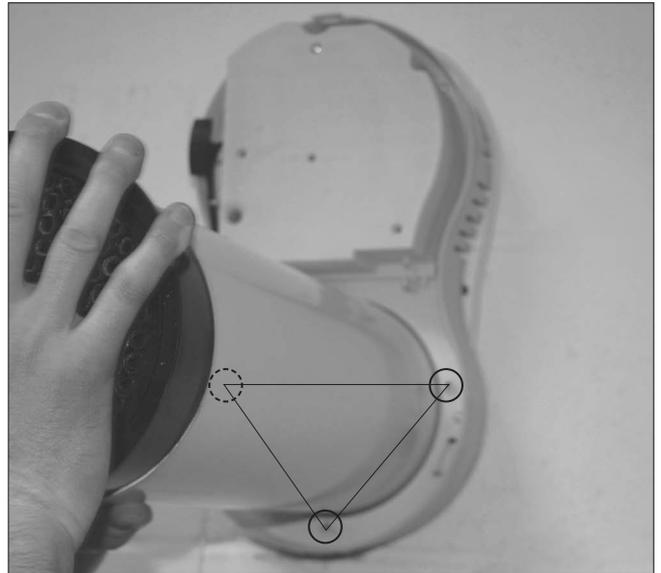

Fig.11B
- Carefully insert the heat cell ensuring it meets the 3 fixing feet (Fig.11B).